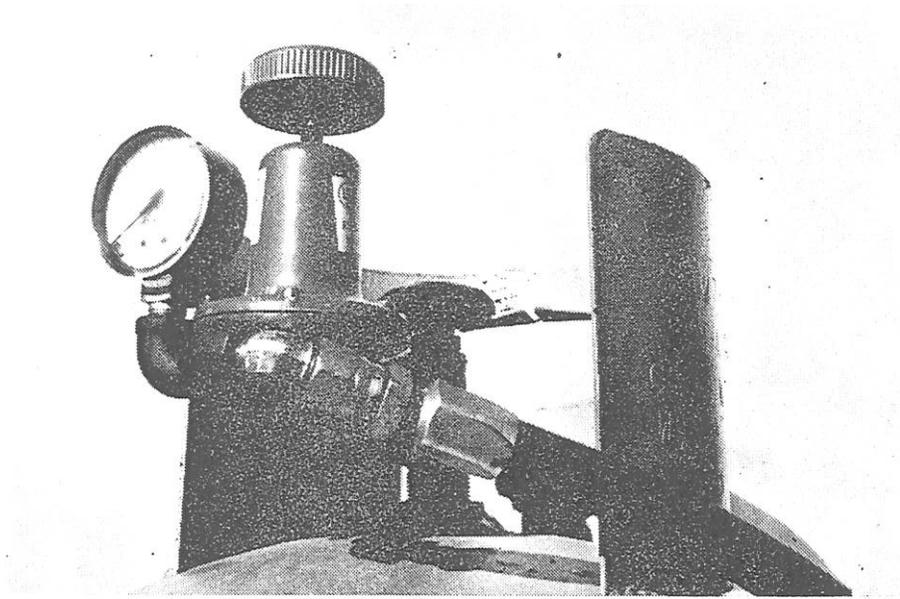

Figure 6 - Pressure Regulators
2. Set pressure regulators. Set pressure gauges on regulators at 10 to 15 psi by turning regulator knobs. See Figure 6.